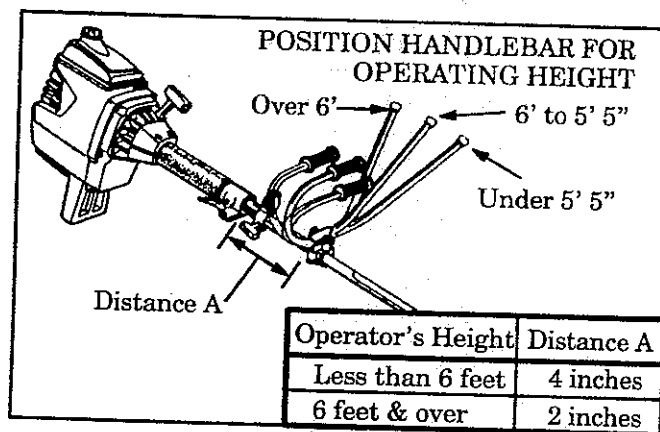

Figure 6
7. Position the handlebar for height. See Figure 6.